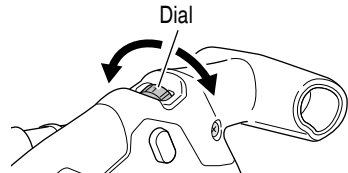

Fig. 12
- Set the mode using the dial according to work application (Fig. 12)